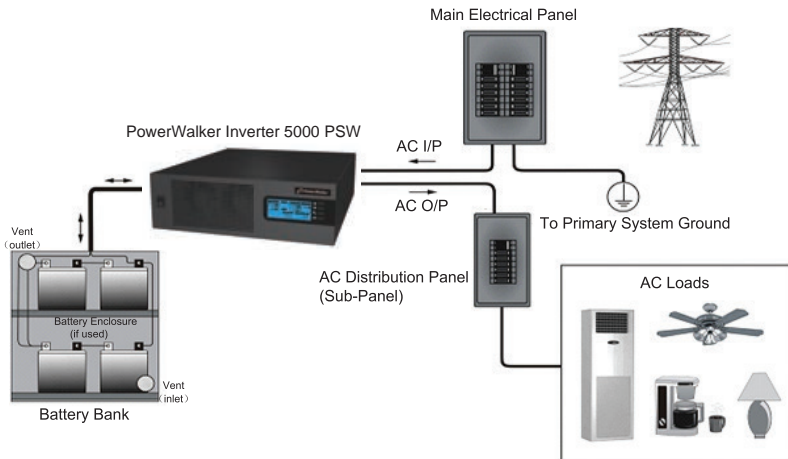

Figure 1-1 Utility Backup
- Utility Backup, see figure 1-1